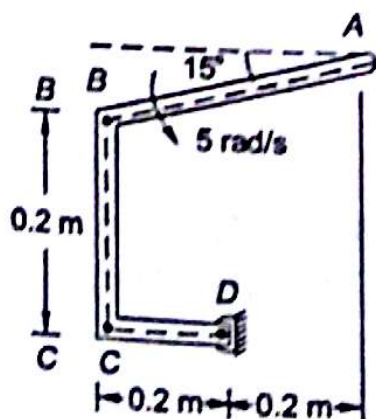

Fig. 12.21
- 12.4 A mechanism is shown in Fig. 12.21. Bar AB has a constant angular velocity of 5 rad/sec counter-clockwise. What is the angular velocity of bar CD?